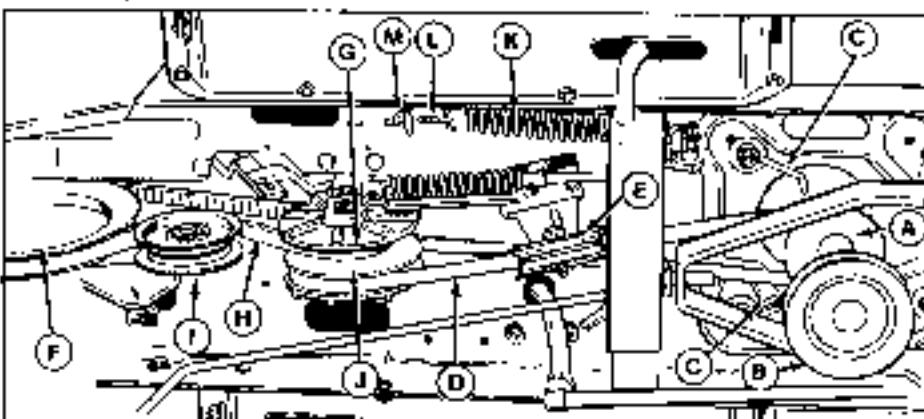

Figure 20. Belt Replacement
3. Pull downward on the rear idler pulley (I, figure 20) and slip the rear belt (H) off.
5. Slip the front belt (D) off the variator pulley (I).
6. Loosen up the idler pulley (E) retaining hardware enough so the belt can be slipped from the pulley and belt stop and slip the belt off.
7. Slip the belt off the engine pulley (A) loosening the belt stops (C) as necessary. Pull the belt down off the PTO pulley (B), and remove from the tractor.
9. Slip the rear belt (H) off the variator pulley (G). Remove the belt from the transmission pulley (F) by pulling cover section toward transmission pulley and